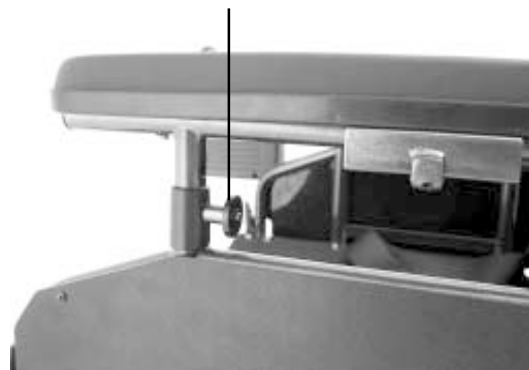

Figure 20. Armrest Height Adjustment
1. Pull out the armrest lever to release the armrest. See figure 20.